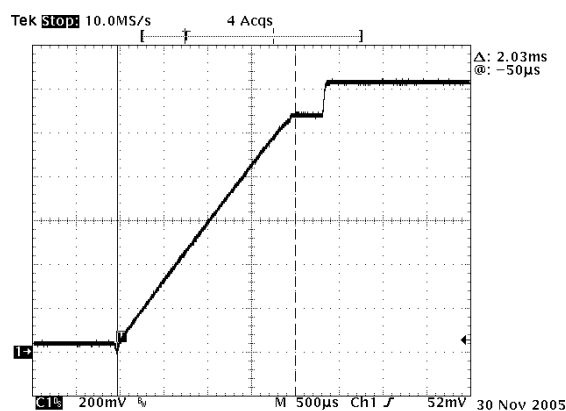

Figure 28. VR11 Startup
The controller supports two different startup routines. An AMD ramp to the initial VID code, or a VR11 Ramp to the 1.1 V VID code, with a pause to capture the VID code then resume ramping to target value based on an internal slew rate limit. See Figures 28 and 29. The controller is designed to regulate to the voltage on the SS pin until it reaches the internal DAC voltage. The soft-start cap sets the initial ramp rate using a typical 5.0  $\mu$ A current. The typical value to use for the soft-start cap (SS), is typically set to 0.01  $\mu$ F. This results in a ramp time to 1.1 V of 2.2 ms based on Equation 1.